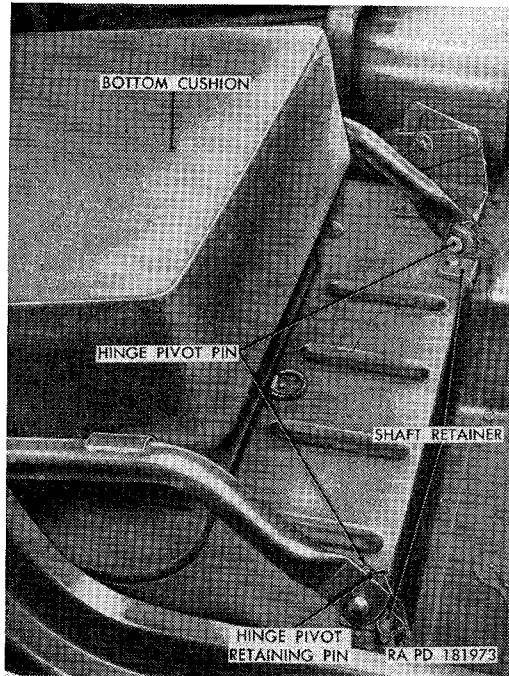
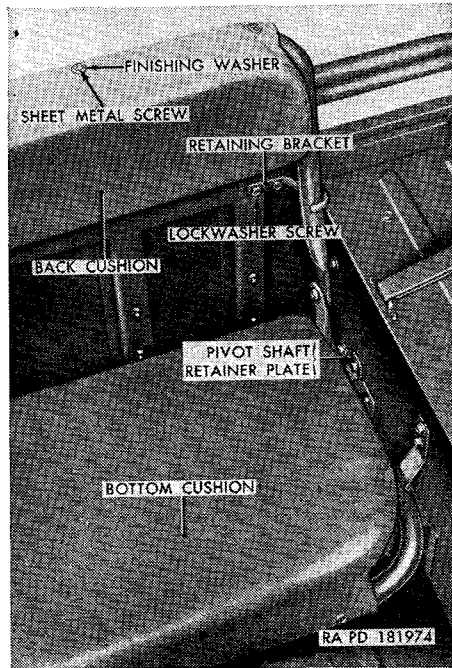

Figure 192. *Passenger seat assembly (M38A1)—installed.*
Figure 193. Rear seat assembly (M38A1)—installed—left side view.
b. Passenger Seat Assembly (fig. 192).
- (1) *Removal.* Remove the front seat hinge pivot retaining pin from each of the two front seat hinge pivot pins. Tilt the passenger seat assembly forward until the flat sides on the pivot pins are aligned with the shaft retainer slots, and lift the seat out of the driver's compartment.
- (2) *Installation.* Position the passenger seat assembly over the pivot shaft retainers mounted on the top of the tool compartment, align the pivot pin flat sides with the retainer slots and insert the pivot pins into retainer. Tilt seat backward to lock it in place. Lock the pivot pins to the retainers by installing one front seat hinge pivot retaining pin in the end of each hinge pivot pin.
c. *Rear Seat Assembly* (fig. 193).
- (1) *Removal.* Remove four lockwasher screws from two rear seat retaining brackets and remove the brackets from the body. Lift up on the seat bottom, folding it toward the seat back, and set the seat assembly in the vertical position. Remove the lockwasher screw from the rear seat pivot shaft retainer plates at each end of the seat frame, and remove
- (2) *Installation.* Place the seat bottom cushion on the bottom of the seat frame, align the two integral mounting clips with the mounting brackets on the frame, and slip the cushion into position on the frame. Secure the bottom cushion to the bottom of the frame with two $\frac{5}{16} \times \frac{5}{8}$ lockwasher screws. Position the seat back cushion at the top of the seat frame and secure cushion to frame with twelve No. 12 finishing washers and No. 10 $\times \frac{1}{2}$ sheet metal screws. Install the driver's seat assembly (a(2) above). Install the passenger seat assembly (b(2) above).
e. Rear Seat Cushion Assemblies (fig. 193).
- (1) *Removal.* Remove the rear seat assembly (*c*(1) above). Remove the 10 sheet metal screws securing the rear seat bottom cushion to the bottom of the rear seat frame and lift cushion off the frame. Remove the 10 sheet metal screws and finishing washers securing the rear seat back cushion to the top of the rear seat frame, and remove the cushion.
- (2) *Installation.* Position the rear seat bottom cushion on the bottom of the rear seat frame and secure cushion to frame with ten No. 10 finishing washers and No. 10 x 1/2 sheet metal screws. Position the rear seat back cushion at the top of the rear seat frame and secure cushion to frame with ten No. 10 finishing washers and No. 10 sheet metal screws.